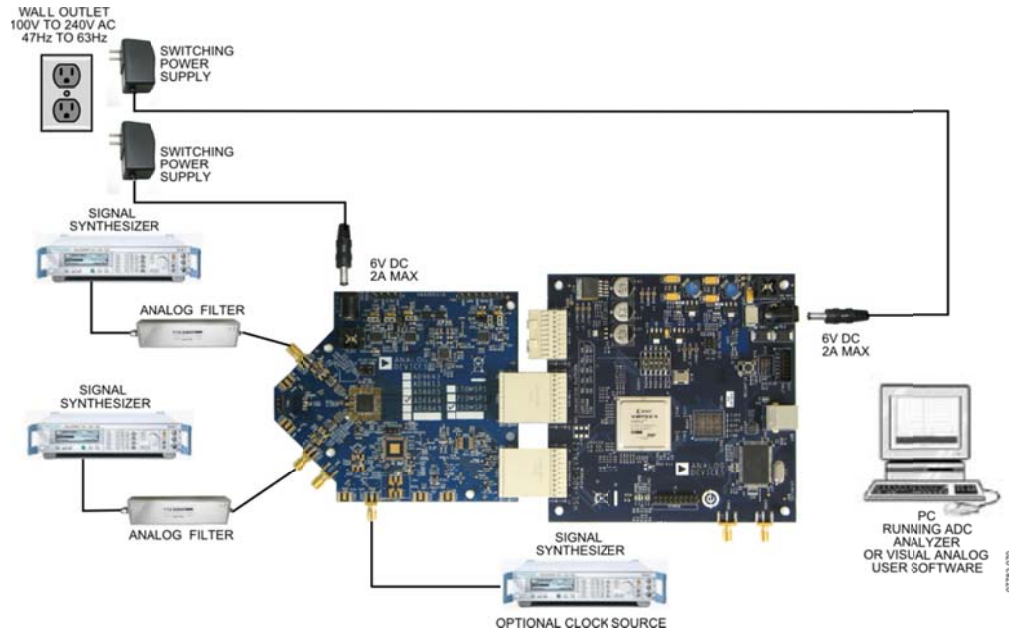

Figure 1: AD6649 Evaluation Board with HSC-ADC_EVALCZ Data Capture Board
1. Connect the AD6649 evaluation board and the HSC-ADC-EVALCZ board together as shown in Figure 1.
9. Next open the SPI Controller software. If prompted for a configuration file, select the file titled AD6649spiR03.cfg. If not, check the title bar of the window to see which configuration is loaded. If necessary, choose “Cfg Open” from the “File” menu and select the configuration file named above. Note that the CHIP ID(1) field may be filled whether the correct SPI Controller configuration file is loaded or not.
11. Set the DCO Clk Delay Enable checkbox in the FLEXOUTPUT DELAY(17) panel on the ADCBase0 tab as shown below. In addition, set the DCO Clk Delay register to the ‘600ps additional delay on DCO pin’. These settings align the output timing with the input timing on the capture FPGA.